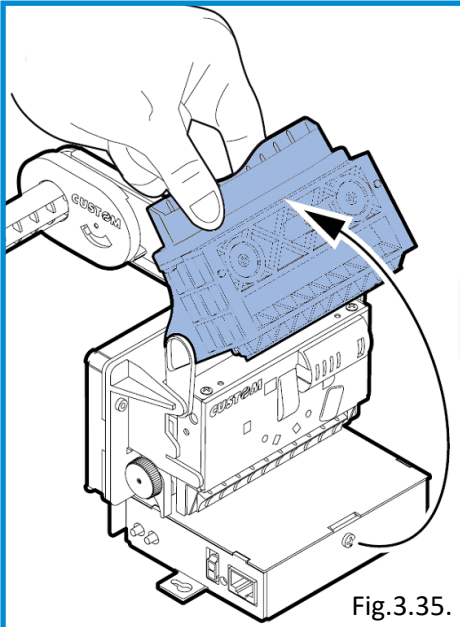

Fig.3.35.
- Scroll the roller counterclockwise to remove the paper (Fig.3.35).